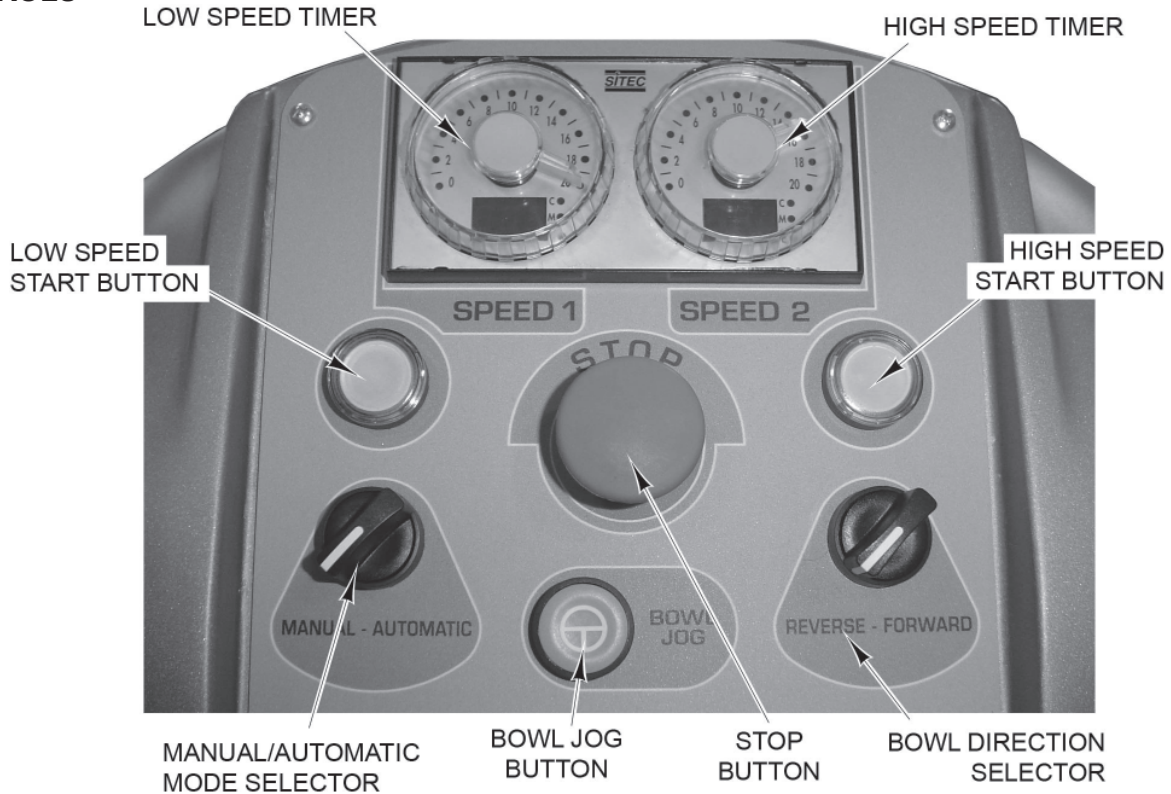

Fig. 2
1. Set mixer to Continuous Mode (Fig. 2).
1. Set mixer to Timed Mode (Fig. 2).